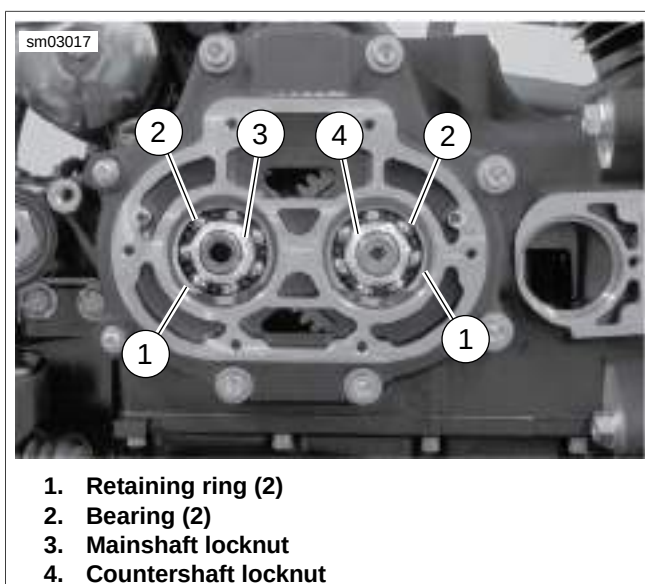

Figure 6-15. Side Door Locknuts
- See Figure 6-15. Using dog rings, lock two gears in place. Temporarily place transmission assembly into transmission case.